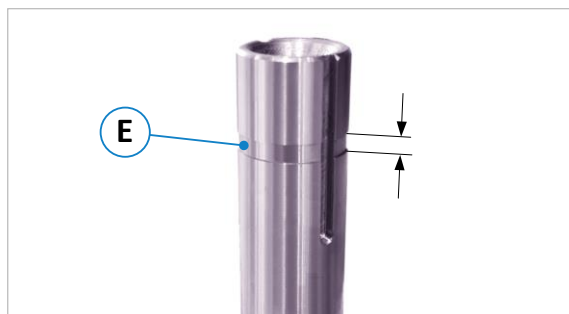

Figure 17: Marking for upper spacer ring
1. Loosen the clamping screw (C) on the quick-release nut (M) with the supplied SW4 pin spanner.
2. Then fully tighten the fixing screw (F) by hand and remove the quick-release nut (M) by taking it out.
3. Remove the spacer rings (D) and put on the new cutter head.
4. Put on the required spacer rings (D), if necessary. Place enough spacer rings so that the upper clamping surface of the upper ring is in the area (E) of the marking groove shown in ⇒ Figure 17.
5. Then put the quick-release nut (M) back on and tighten the fixing screw (F) by hand.
6. Now tighten the clamping screw (C) with the SW4 pin spanner → Tightening torque = **12 Nm**.